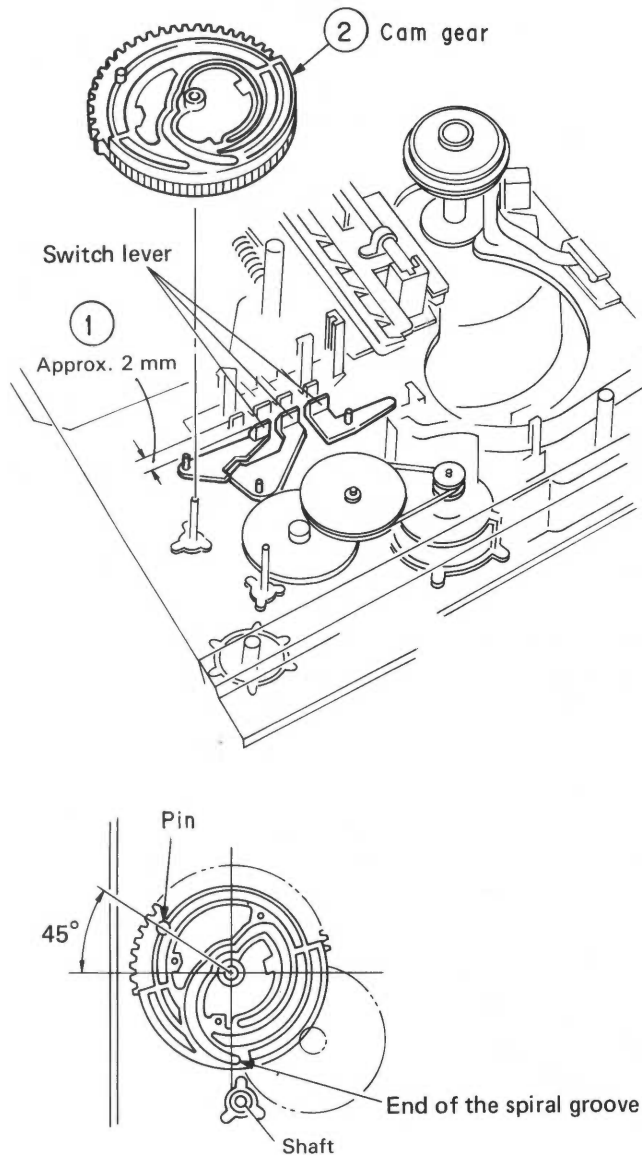

Fig. 7-11
- ② Insert the cam gear so that the end of the spiral groove on the upper surface of the cam gear comes to the position nearest to the shaft located at the front, as shown in Fig. 7-11.